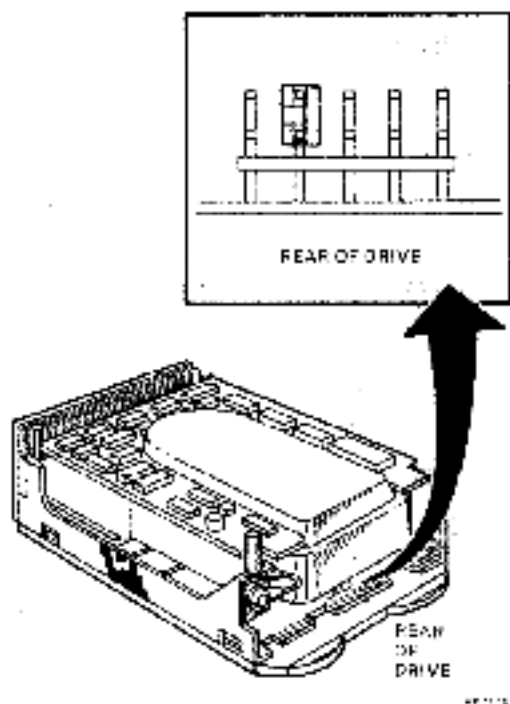

Figure E-1 Read/Write PCB jumper, RD53
6. Check new drive unit for the correct jumper/switch positions (see Figure E-1)